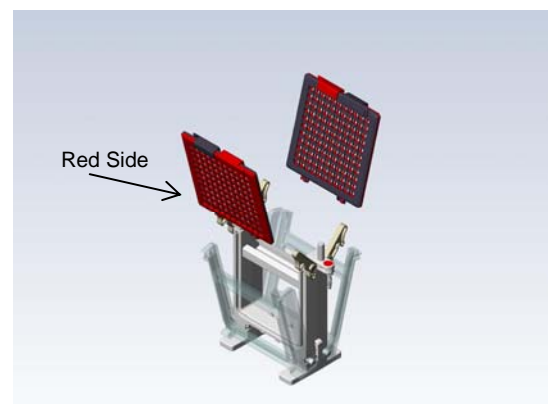

Figure 10
5. Insert blotting cassettes into core making sure that red side faces outward, as shown in figure 10.